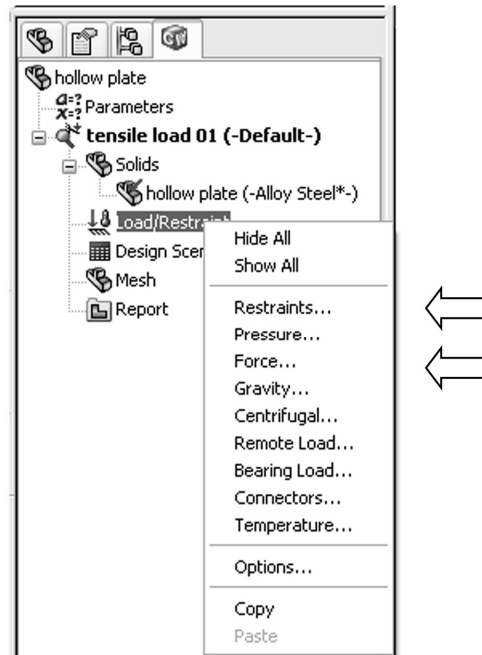
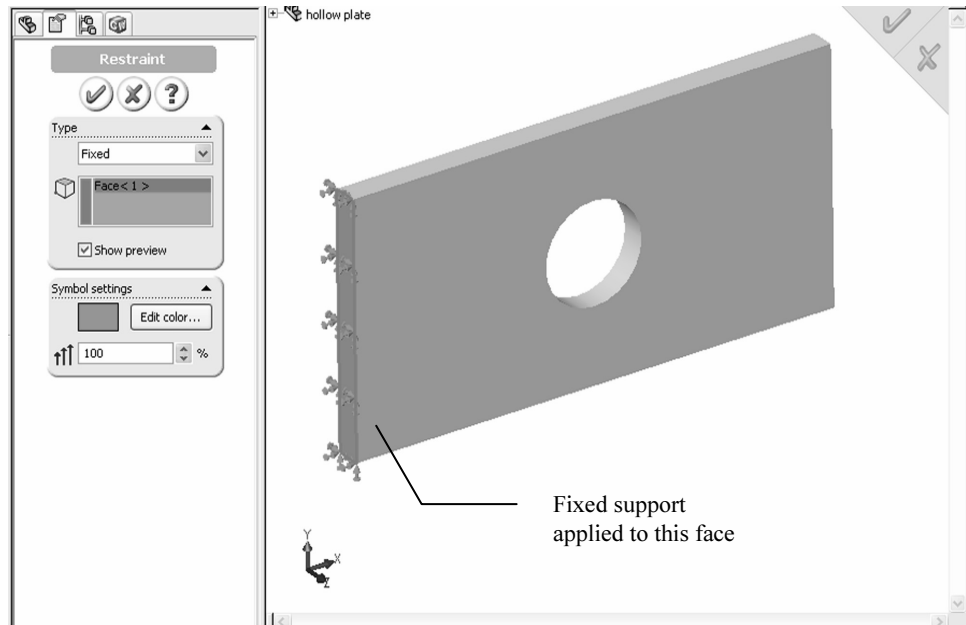
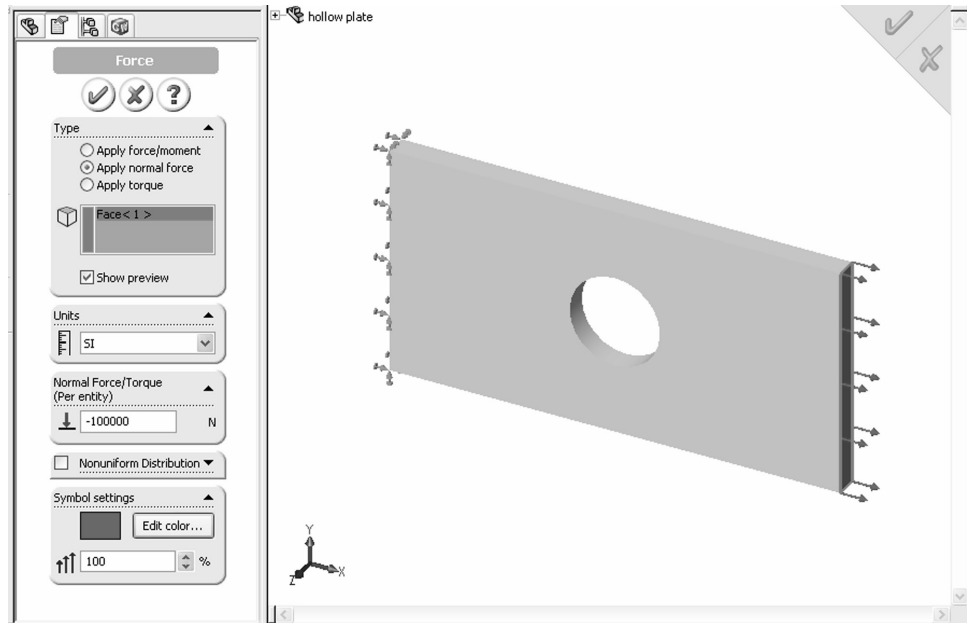

Figure 2-8: Pop-up menu for the *Load/Restraint* folder
Figure 2-9: Restraint window
Figure 2-10: Force window
To display the pop-up menu that lists the options available for defining loads and restraints, right-click the *Load/Restraint* folder in *tensile load 01* study (figure 2-8).
To define the restraints, select **Restraints...** from the pop-up menu displayed in figure 2-8. This action opens the **Restraint** window shown in figure 2-9.
- Using the **Hide All** and **Show All** commands in the pop-up menu shown in figure 2-8, or
We now define the load by selecting **Force** from the pop-up menu shown in figure 2-8. This action opens the **Force** window, (figure 2-10).
In the Type area, select the **Apply normal force** button in order to load the model with 100,000 N of tensile force uniformly distributed over the end face, as shown in figure 2-10. Note that tensile force requires that the load magnitude be defined with a minus sign.